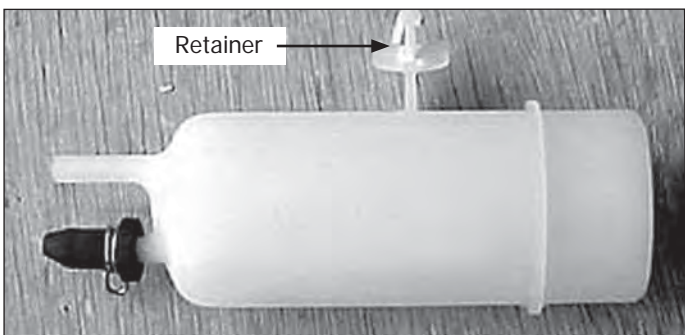

Figure 4-99.
3. Remove retainer securing air bell in position and remove from unit. (See Figure 4-99)